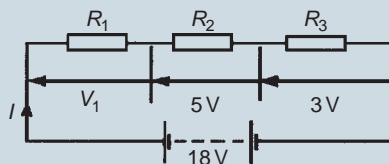

Figure 7.9
- For the circuit shown in Fig. 7.9, determine the value of V_1 . If the total circuit resistance is 36Ω determine the supply current and the value of resistors R_1 , R_2 and R_3